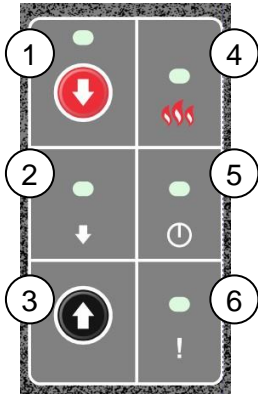

Figure 5 - Release device
Pushbuttons "Manual opening" (3) and "Manual closing" (1) (Figure 5. "Release device") are switched in the so-called "dead man's mode". This means that the gate opens / closes only as long as the button is pressed. In order to ensure this function, automatic opening must of course not be switched on. The jumper that may have been installed for this purpose at the "Remote opening" input 68/69 on the MC-MABM motor control board must be removed.